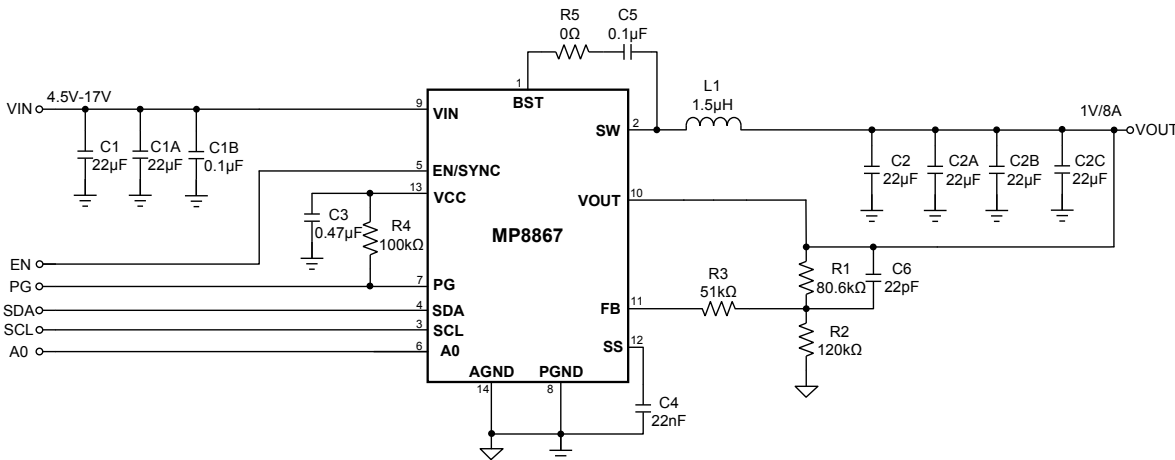

Figure 13: $V_{IN} = 4.5-17V$, $V_{OUT} = 1V$, $I_{OUT} = 8A$
12) The recommended layout is based on Figure 13.
The detailed application schematics are shown in Figure 13. The typical performance and circuit waveforms are shown in the Typical Performance Characteristics section. For more device applications, please refer to the related evaluation board datasheets.